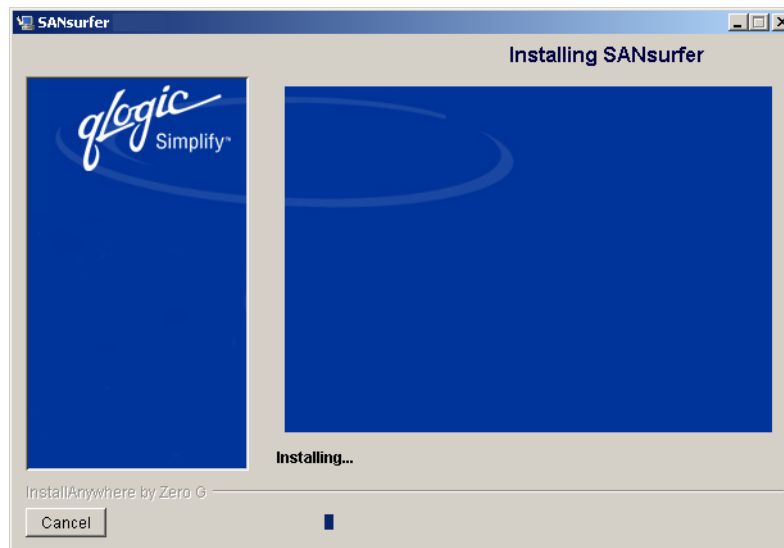

Figure 5-9. Installing SANSurfer Dialog Box
10. The **Installing SANSurfer** dialog box displays (see figure 5-9). Various screens inform you that the installation is progressing.